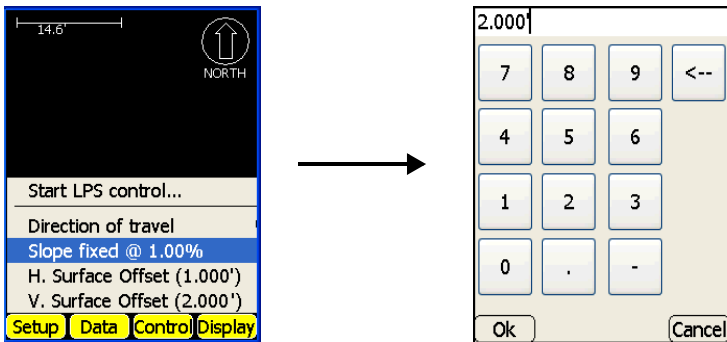

Figure 5-25. Apply a Slope
2. Enter the desired slope and press **Ok** (Figure 5-25 on page 5-17).